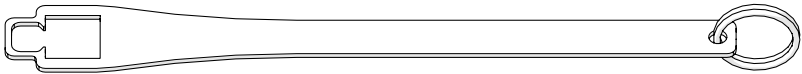

Fig. 24 - Chain retrieval tool
- ▶ The chain retrieval tool (*Fig. 24*) is used when installing the scanner during single sided access situations.